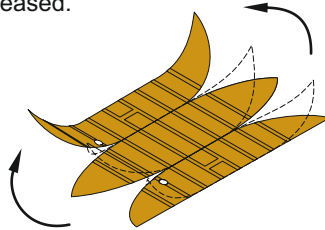

Figure 2
- B Roll or form the ends of the car body into curves (see Figure 2) before you fold the sides up.